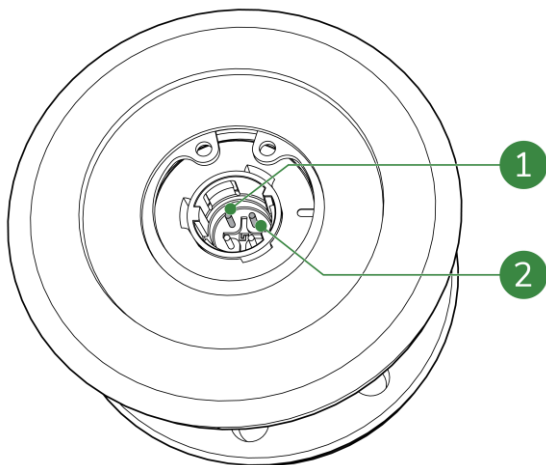

Figure 9-4: Sensor connections for resistance measurement
7. Measure the resistance of the sensor. The resistance must be lower than 50 ohms. Measure between the inner connection point (Figure 9-4, pos. 1) and the end of the sensor (Figure 9-4, pos. 1 and 2).